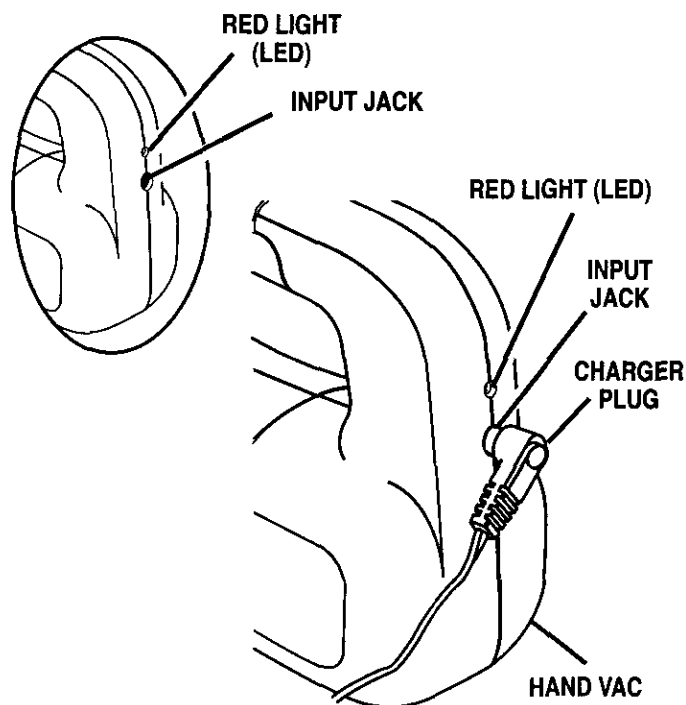

Fig. 2
- Connect charger to hand vac by inserting charger plug into input jack. As shown in Figure 2, input jack is located on the back side of the tool. *See Figure 2.*